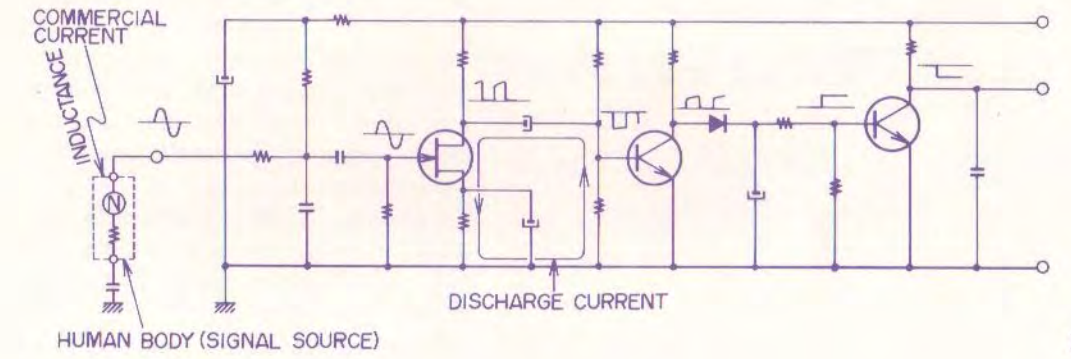

Fig. 14
2. WHEN TOUCH BUTTON IS TOUCHED WITH FINGER, OPERATION IS SAME AS MICRO SWITCH SYSTEM USED TO DATE (Refer to Figs. 14,16)
Because of inductance in our bodies from commercial power supply (50 Hz or 60 Hz), if we touch one of the touch buttons with our finger, our body becomes a signal source as shown in Fig. 14 and the same thing takes place as in the case of a micro switch system to date. Therefore, when a button is touched with a finger, a signal is supplied to FET Q1 gate as shown in Fig. 14.